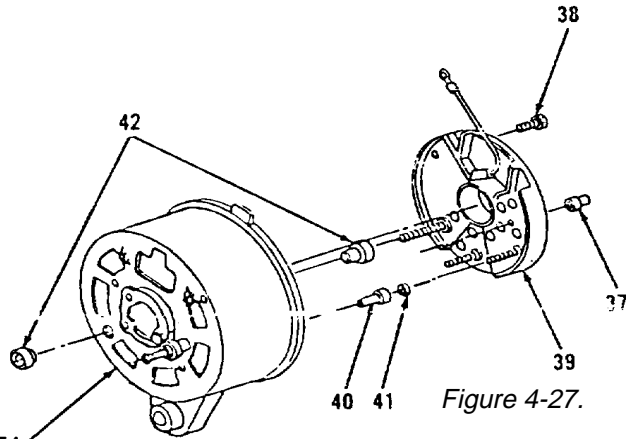

Figure 4-27.
- 26. Remove diode assembly (39). Refer to Testing, step 10.
- 27. Remove nut (29) and lockwasher (30) from frame (54).
- 28. Remove two nuts (31) and lockwashers (32).
- 29. Remove two nuts (33), lockwashers (34), washer (35) and insulator (36).
- 30. Heat sleeve (37) with soldering iron while gripping edge of sleeve (37, Figure 4-27) with needle nose pliers.
- 31. Unsolder and remove sleeve (37).